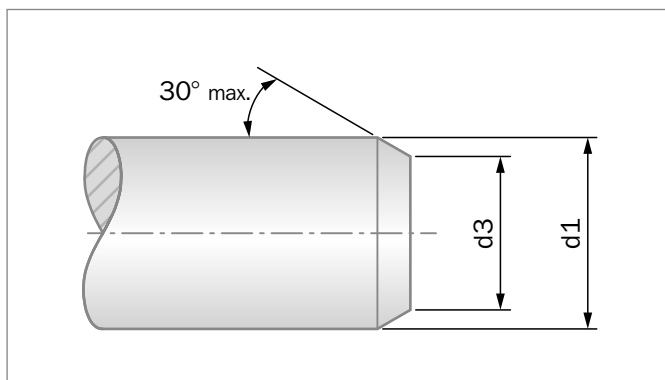
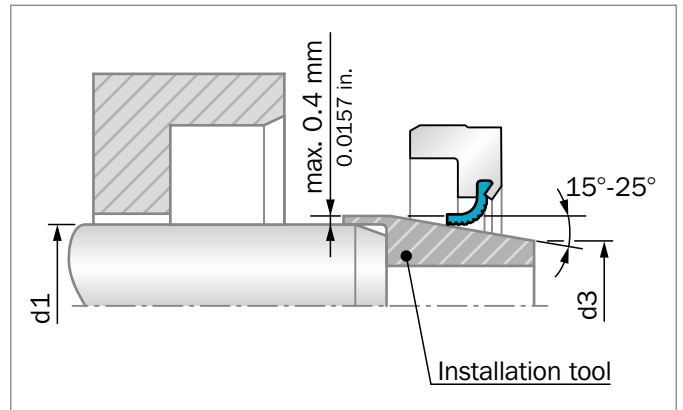

Figure 113: Shaft lead-in chamfer
Figure 114: Fitting the sealing lip using an installation tool
When installing Turcon® Varilip® PDR seals, careful handling is important in order to avoid damaging the sealing lip. If the seal is installed directly on to the shaft, lead-in chamfers must be machined on the end of the shaft with no burrs, sharp corners or rough machining marks. The leading diameter should be smaller than the unstressed diameter of the sealing lip, as shown in Figure 113. Table 71 shows guide values for this.
**Table 71: Shaft Lead-in Chamfer (Ref. Figure 113 and Figure 114)**
It is preferable to use an installation cone, as shown in Figure 114, where the seal can be fitted onto the cone before being located on the shaft to ensure correct orientation of the sealing lip.